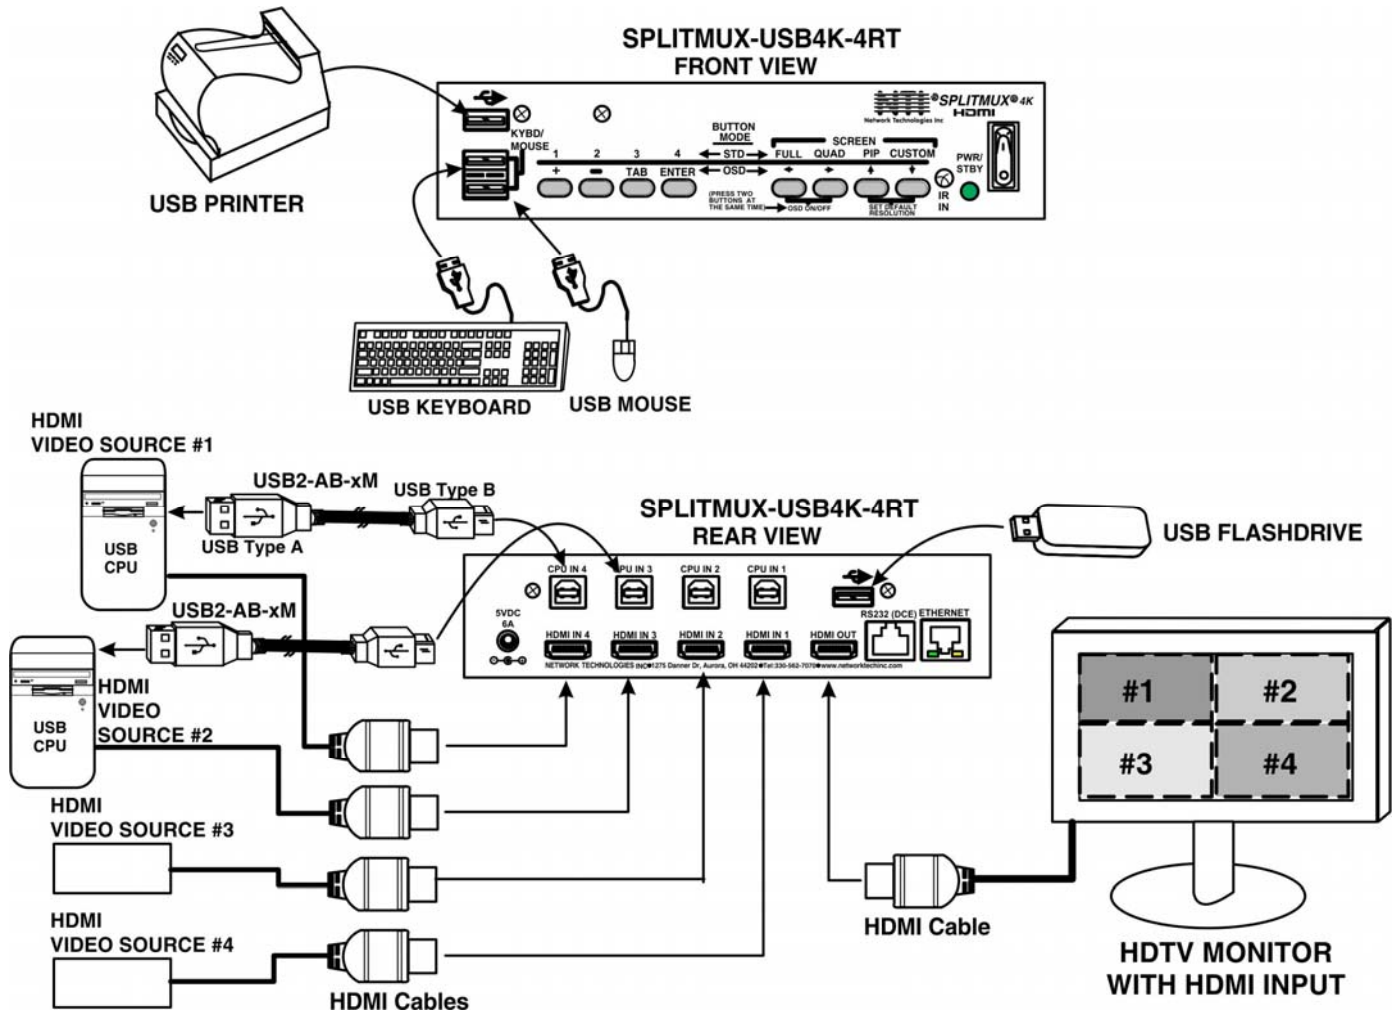

Figure 10- Video Source\Display Connections- SPLITMUX-USB4K-4RT
4. Press the switch on the front to power the SPLITMUX ON. Within 20 more seconds the LED will change from red to green (ON) and the SPLITMUX will be ready to use.
5. For keyboard and/or mouse control of the OSD menu of the SPLITMUX, connect a USB keyboard and/or mouse to the USB type A ports labeled "KYBD/MOUSE" on the SPLITMUX. On models supporting transparent USB device connection (SPLITMUX-USB4K-4RT), the keyboard and mouse connected to these ports will also control the keyboard and mouse functions on any connected PC. (See Figure 10)